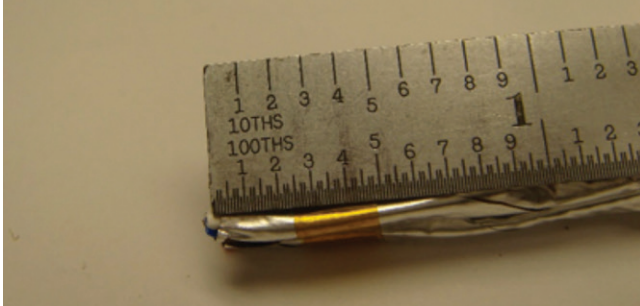

Figure 32: Taping each pair
8. Cut four pieces of polyimide tape that are 0.50-inch long. Wrap a piece of the tape around each pair 0.25 inch from the end of the cable, keeping the foil wrapped as tight as possible (Figure 32).